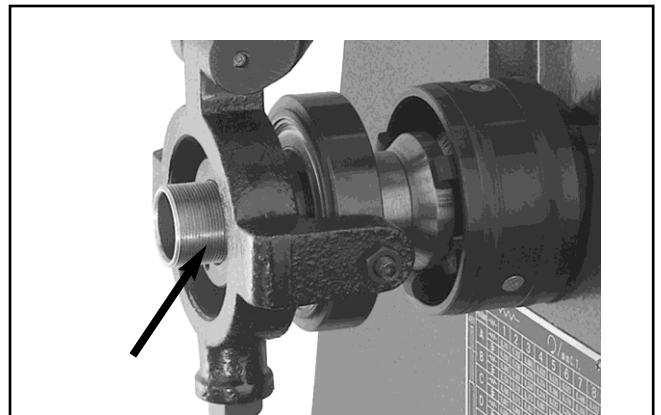

Figure 16. Location to rotate draw tube to remove or replace 5-C collets.
3. Rotate the draw tube counter-clockwise at the end of the collet closer, as shown in **Figure 16**, to unthread the collet.
6. Engage the hub locking pin back into place as shown in **Figure 16**.